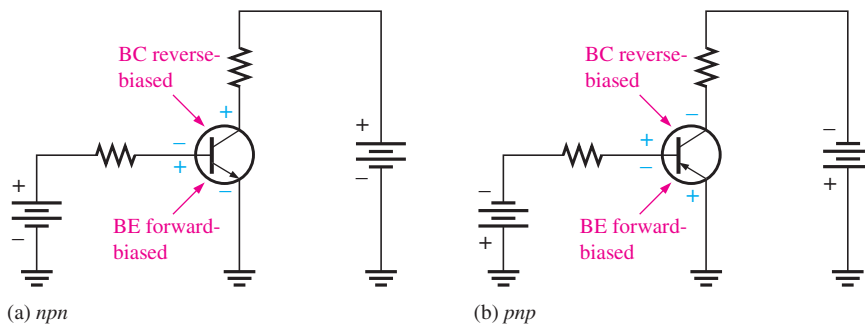

FIGURE 3-3 Forward-reverse bias of a bipolar junction transistor.
In order for the transistor to operate properly, the two pn junctions must be supplied with external dc bias voltages to set the proper operating conditions. Figure 3-3 shows the proper bias arrangement for both npn and pnp transistors. In both cases, the base-emitter (BE) junction is forward-biased and the base-collector (BC) junction is reverse-biased. This is called *forward-reverse bias*. Both npn and pnp transistors normally use this forward-reverse bias, but the bias voltage polarities and the current directions are reversed between the two types.